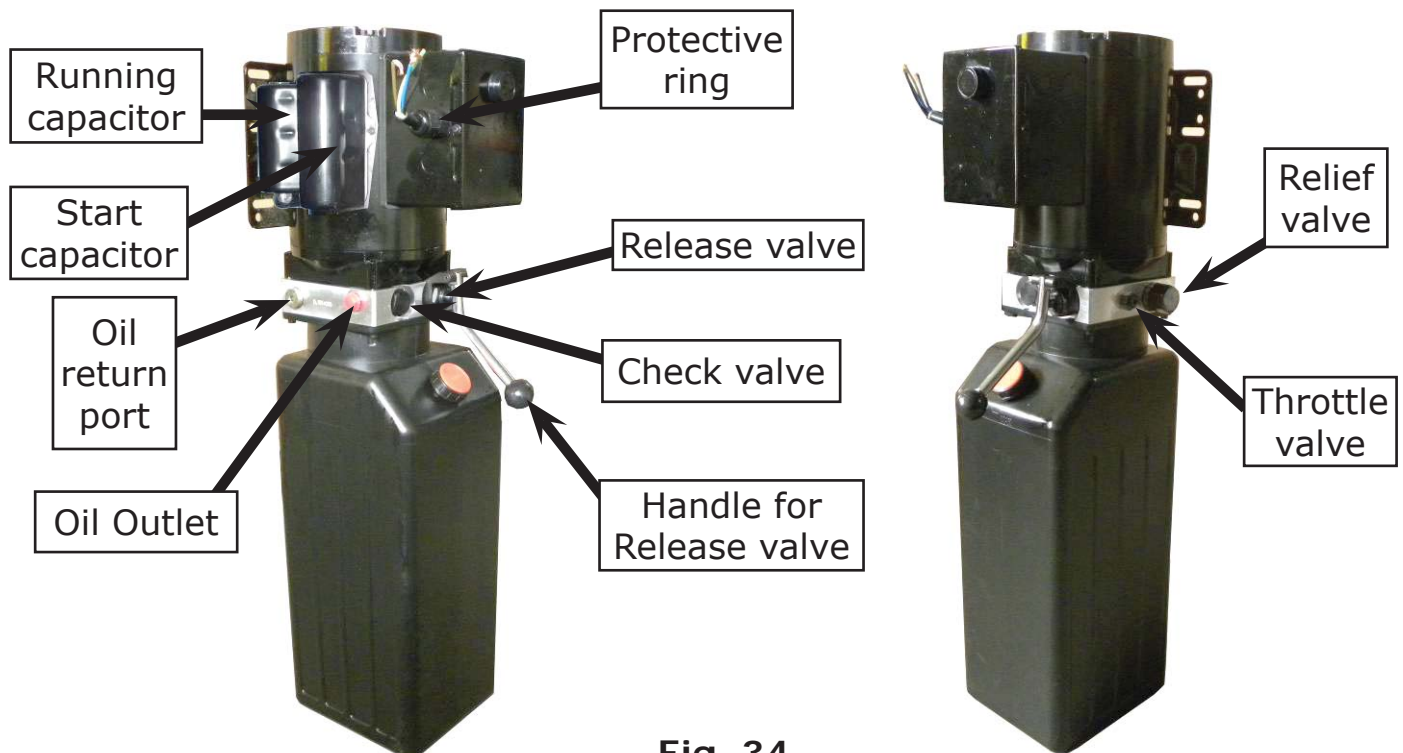

Fig. 34
b. Atlas manual power unit, 220V/50HZ, Single phase (See Fig. 34)